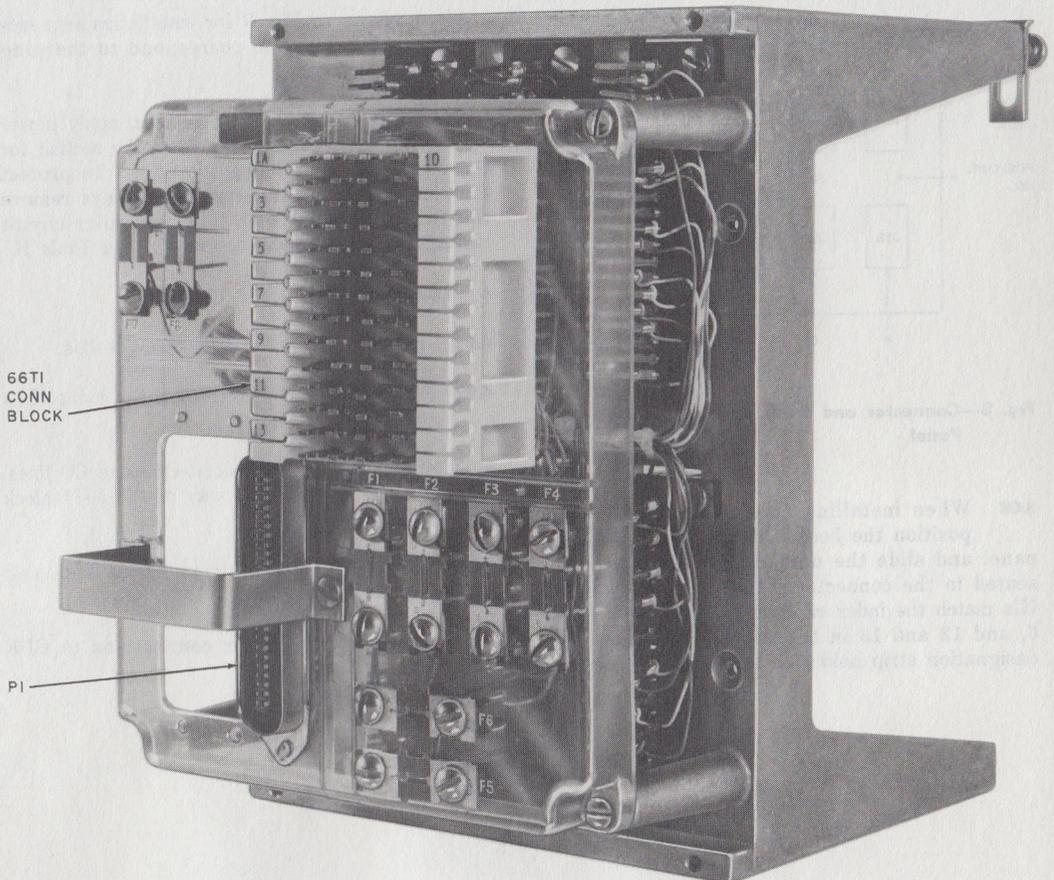

Fig. 2—615A Panel (Rear View)
2.05 The 24E 1/2-ampere fuses attach to screw terminals on the rear of the panel as shown in Fig. 2.